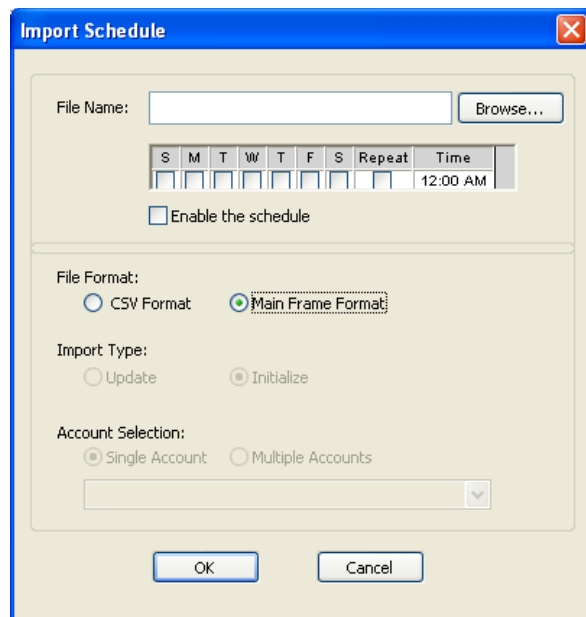

Figure 72
- 3a. If you selected SCHEDULED IMPORT in step 2, click the days of the week and enter the time that you want the import to be performed (Fig 72). Check the REPEAT square if the schedule is to repeat on a weekly basis. You must also check the Enable Schedule box to initiate the schedule that you created.